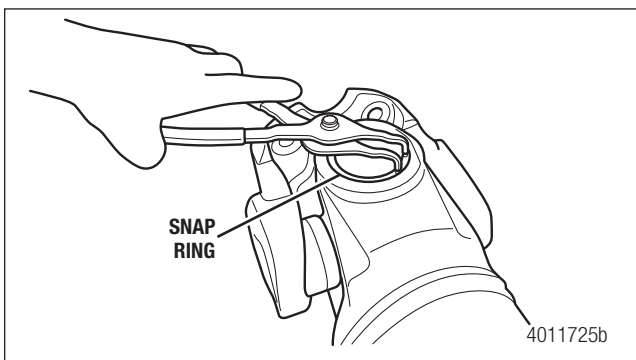

Figure 5.67
1. Use snap ring pliers to remove the snap rings that secure the drive flange to the cross. Figure 5.67.